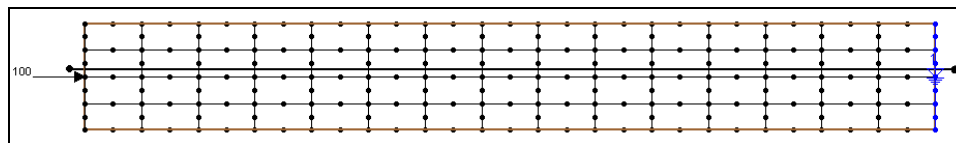

Figure 5-2 Mesh with Observation Arc.
4. Create an arc down the center of the flume as shown in Figure 5-2